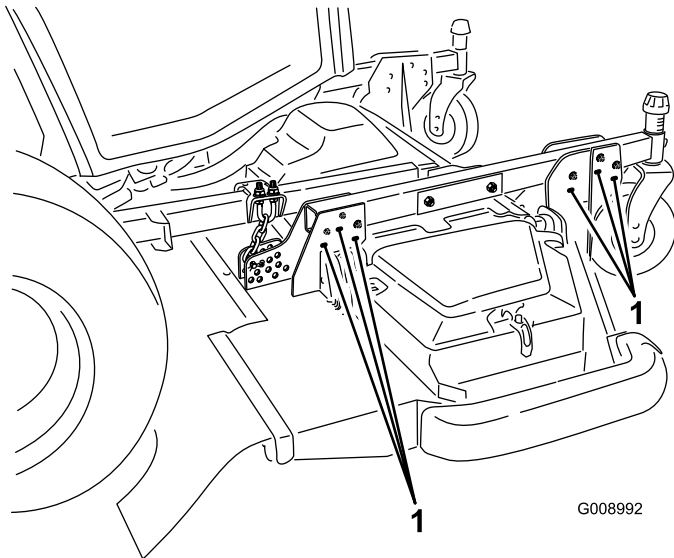

Figure 27
7. To attain the 5 to 6 inch (102 to 153 mm) height of cut settings, remove the mounting bolts securing the deck hanger brackets to the height of cut castor arms and remount the deck hanger brackets to the height of cut castor arms using the lower set of holes (Figure 27).